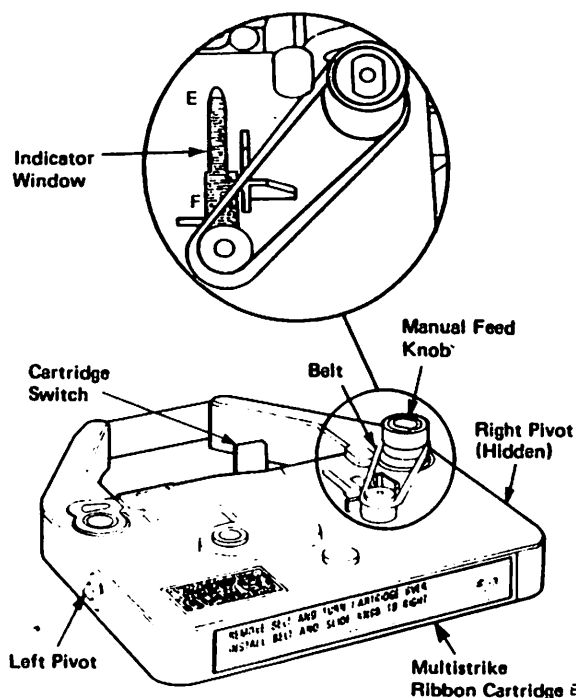

Figure 33 Multistrike ribbon cartridge
Replace the fabric ribbon cartridge as necessary to maintain clear printing. Replace or reverse the multistrike ribbon cartridge when the ribbon end is reached causing a ribbon fault to occur. A ribbon fault is indicated when the printer stops with the ribbon indicator light is on and the ribbon at the 'E' level of the ribbon cartridge indicator window (Figure 33).
Reverse the multistrike ribbon cartridge when the first half is used and replace it when both halves are used. Figure 33 shows a multistrike ribbon cartridge with the first half used.
NOTE: The cartridge switch (Figure 33) of a multistrike ribbon cartridge must be positioned to the right to allow proper seating.
3. Remove the belt from the top of the multistrike ribbon cartridge (Figure 33). Turn the cartridge over and install the belt on the new top side.